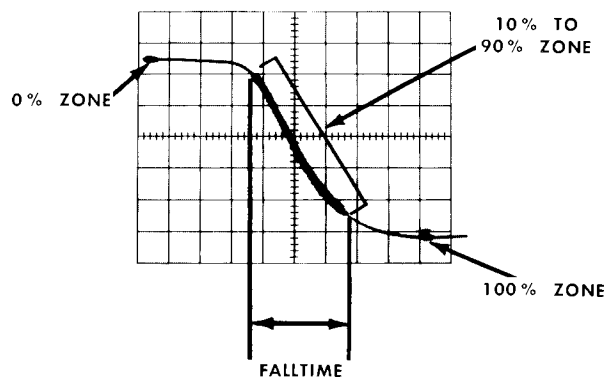

Fig. 2-5. Falltime measurement.
1. Adjust the time-base controls to trigger on the negative slope of the pulse. This places the 0% zone on the waveform peak. Set the 100% zone to the lowest point on the waveform (see Fig. 2-5).